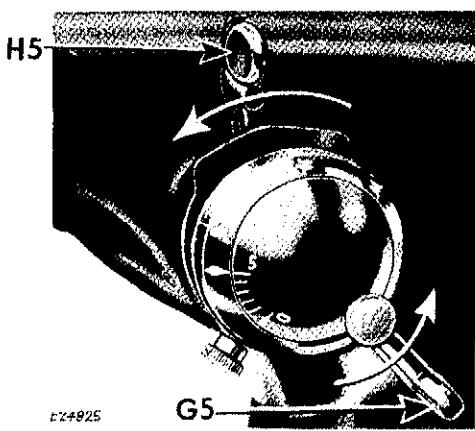

Fig. 121. Left Needle Position (Zigzag Stitching)
**SETTING:** Bight lever **G5** at #5 position and position lever **H5** over to the extreme left, as shown in Fig. 121.